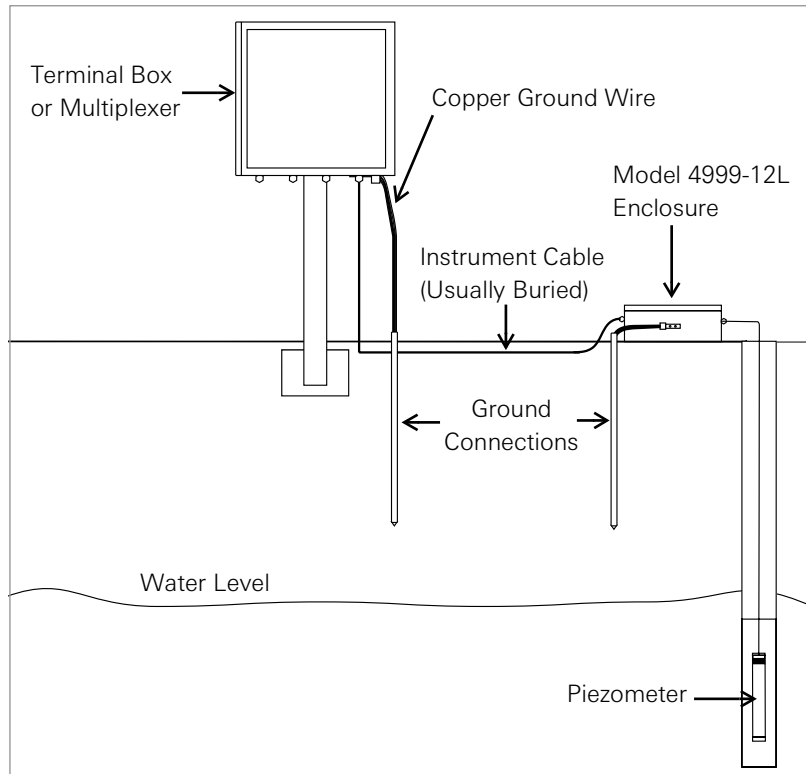

FIGURE 7: Recommended Lightning Protection Scheme
- Placing a Lightning Arrestor Board (Model 4999-12L), in line with the cable, as close as possible to the installed piezometer (see Figure 7). These units utilize surge arrestors and transzorb to further protect the piezometer. This is the recommended method of lightning protection.